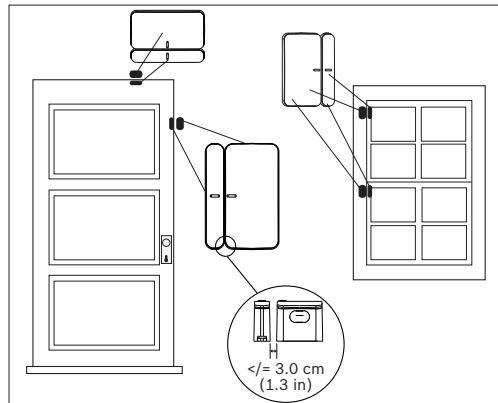
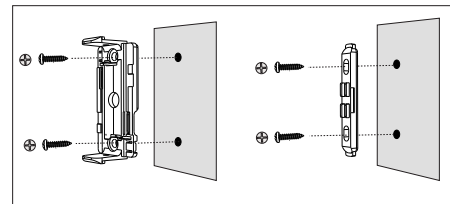

Figure 4.3: Correct alignment and placement
Figure 4.4: Surface mounting using screws
5. When the location is acceptable, permanently mount the detector and magnet using the double-sided tape on the base. Refer to *Figure 4.3*. If using screws for mounting, remove the detector and magnet covers to access the mounting holes. You might have to remove the tape on the bottom of the detector and magnet bases to mount flush on the surface. Refer to *Figure 4.4* for surface mounting, *Section 4.5*, and *Section 5* for removing the magnet and detector covers. For additional security, use an adhesive with the screws.